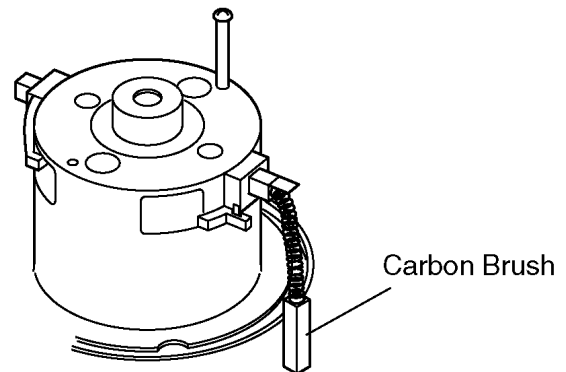

Fig.13
2. Take out carbon brush from carbon brush holder. (Fig.13)